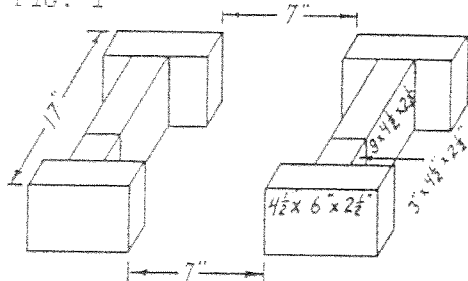

FIG. 2
7. Using dip joints, set brick per Fig. 2. Be sure 7" door opening is in center of furnace, and that outside surfaces of the door are flush with MP-4 bricks so that the door will close tight.